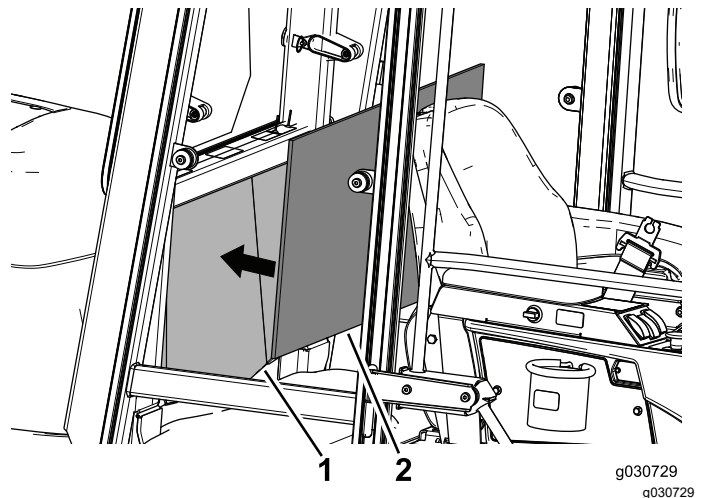

Figure 32
2. Align the upholstery panel with the center of the back panel inside cab to verify its fit and placement (Figure 32).